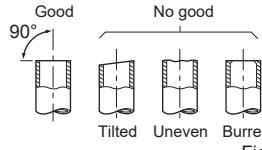

Fig. 2
- 4) Process the end of ground wire (Fig. 2). Connect it to the ground terminal of the electrical parts box.
- 5) Process the end of indoor/outdoor unit connecting wire (A) (Fig. 2). Attach it to the terminal block. Be careful not to make mis-wiring. Attach the wire to the terminal block securely so that its core cannot be seen, and no external force affects the connecting section of the terminal block.
- If the drain hose provided with the indoor unit is too short, connect it with drain hose (J) that should be provided at your site. (Fig. 2)